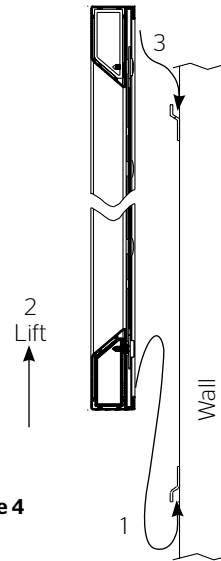

Figure 4
3. Attach the small wall bracket to the wall. Refer to Figure 4 for proper orientation. Do not tighten the screws completely. The bracket should slide up and down easily.
5. Hang the screen on the brackets by hooking the bottom of the frame onto the lower wall bracket and lift up until you can hook the top of the frame on the top bracket. Push down on the frame to seat it on the brackets. Refer to Figure 4.